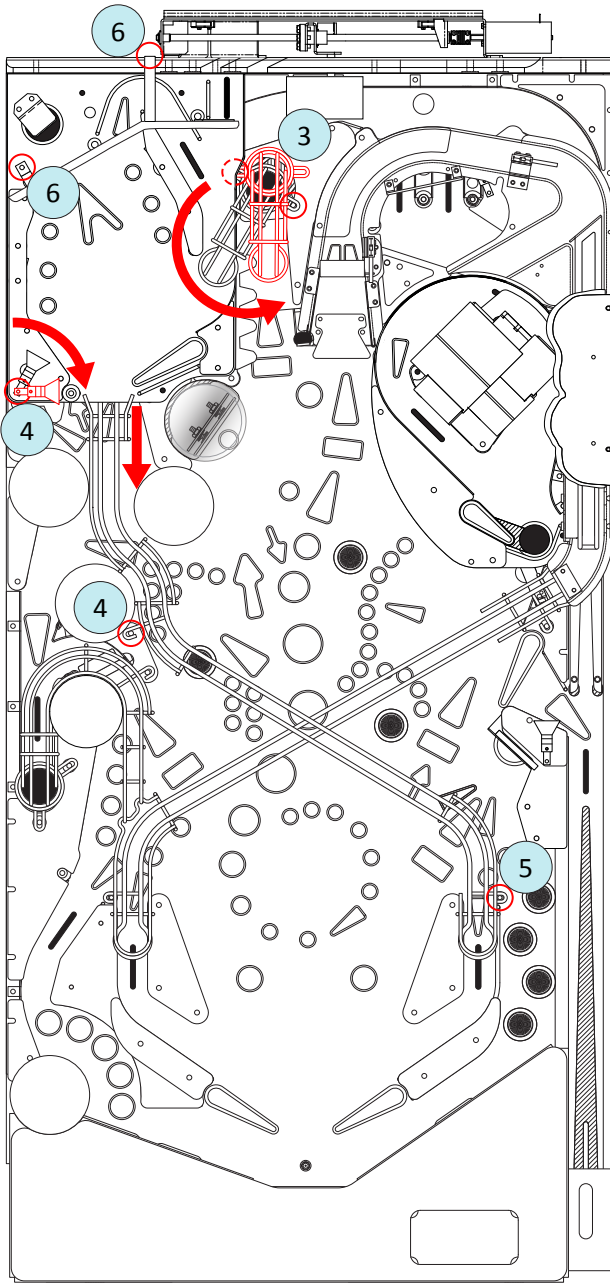

Figure E2. Castle playfield removal, illustration 2.
3) Using an 11/32" nutdriver, loosen the left-side locknut on the winkie guard VUK wire guide until it is near the top of its threaded post (see figure E2). Completely remove the right-side locknut and the flat washer underneath it (a magnetic pickup tool can be used to avoid dropping the loose pieces as they are removed).
4) With the same nutdriver, remove the locknut and flat washer holding the castle exit wire ramp, near the crystal ball (circled in figure E2). Loosen the locknut holding the spotlight in the lower left hand corner of the castle playfield. Twist the spotlight CW to gain access to one of the screws holding the playfield in place.
5) Using an 11/32" open-end wrench, remove the locknut and flat washer holding the end of the castle exit wire ramp next to the right outlane (circled in figure E2). Once loosened with the wrench, a nut-driver may be used to completely remove the locknut (by gently flexing the wire ramp).